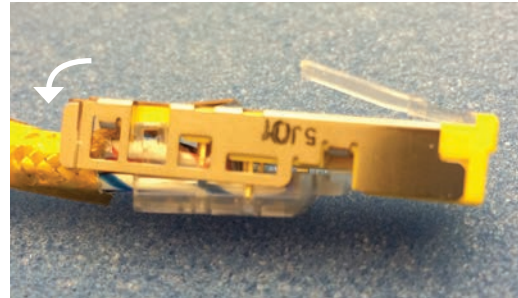

Figure 14: Pushing the top part of connector
12. Using soft jaw pliers, gently push down the top part of the connector and snap into place (Figures 14 – 15).